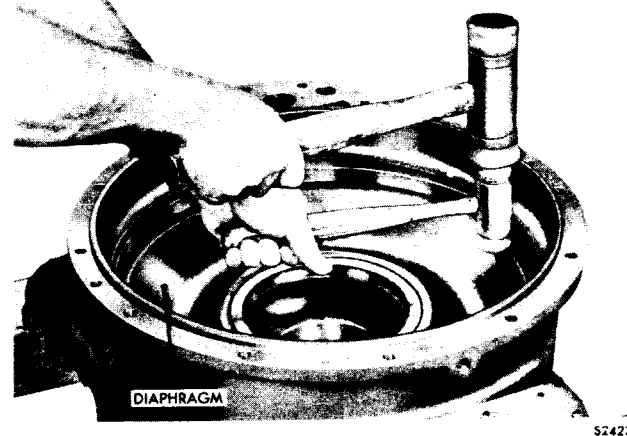

Fig. VI-22. Installing diaphragm into converter housing
(10) If the transmission has a "dry" converter housing (sec II, para 2c), install the diaphragm and seal assembly. See figure VI-17. Start diaphragm into housing bore evenly. Position the diaphragm so that arrow in ASSEM DOWN instruction points toward forward hole in housing. See figure VI-17. Seat the diaphragm in bore by using a soft hammer against diaphragm, while driving with another hammer (fig. VI-22). Drive the diaphragm evenly until it seats in bore.
(11) Refer to a(14), above.
(12) Refer to the note following a(6), above. Assemble the components of the pump